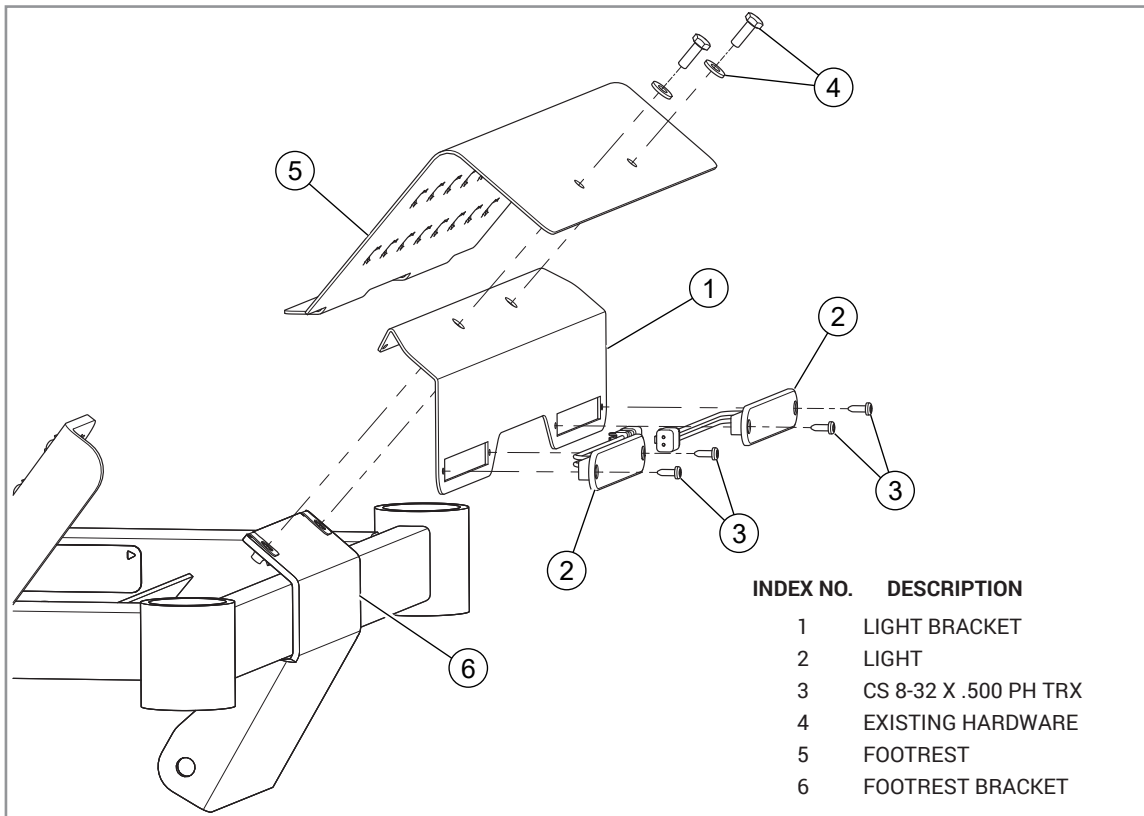

FIG. 1
2. Insert the lights into the light bracket. FIG. 1
3. Remove hardware from the footrest and place the light bracket between the footrest and the footrest mount bracket as shown. FIG. 1